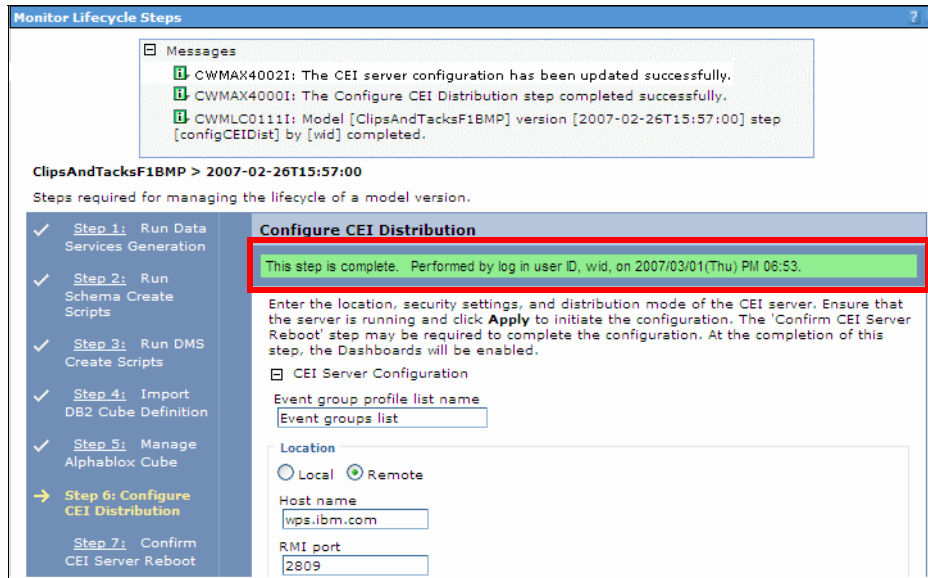

Figure 14-20 Monitor life cycle: Step 6 completed
- ▶ Messages will be displayed to indicate that step 6 completed successfully (Figure 14-20).